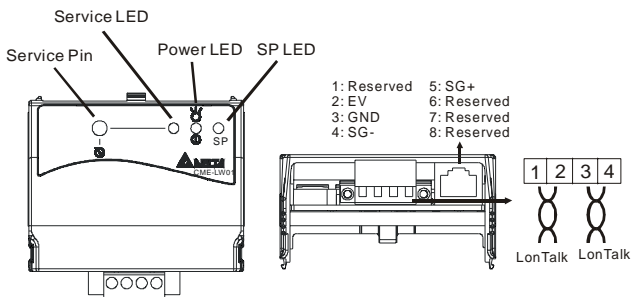

Figure 2-2
3. LED indicator: as shown in the figure 2-2.
Before connecting to the LonWorks network via network tools, user needs to press the Service Pin (as shown in figure 2-2) to send the unique 48-bit neuron ID for LonWorks network identification. After successful configuration, CME-LW01 connects to the LonWorks network and the Service LED should be OFF. If Service LED is NOT OFF, it means that configuration is failed. Refer to chapter 5 Troubleshooting for details.